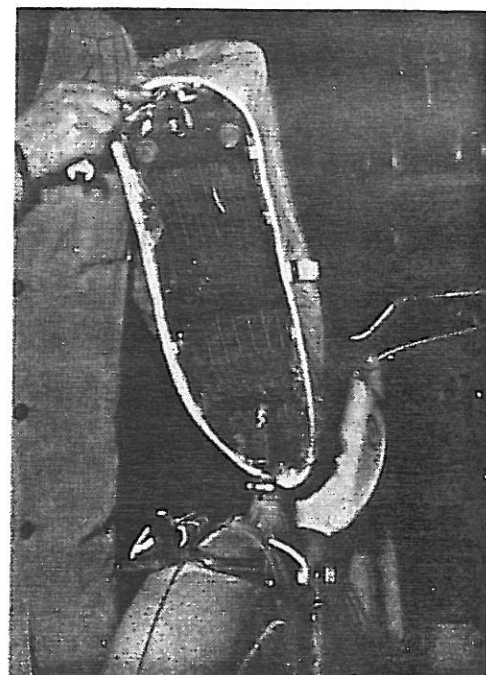

fig. 14
- a. Put seat post into frame as shown. (Fig. 14).